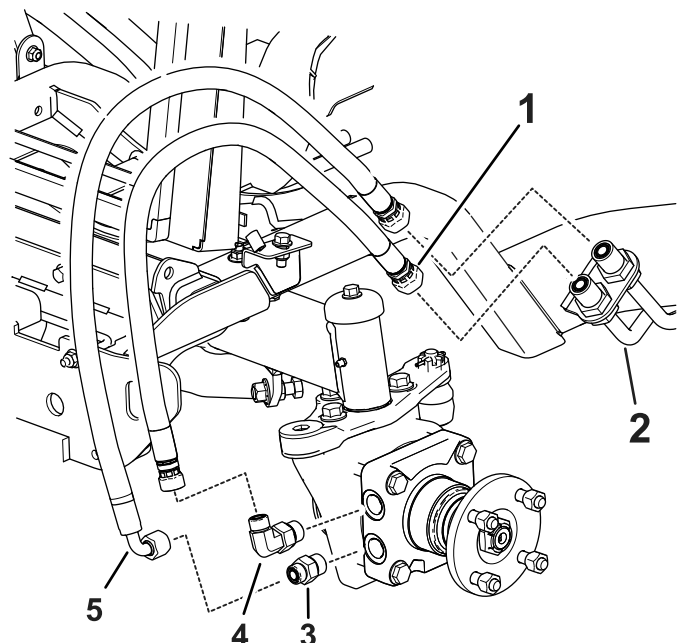

Figure 4
3. Install the new straight fitting and the 90° elbow fitting to the wheel motor (Figure 4).
6. Install the hose with straight fittings onto the 90° elbow fitting (Figure 4).
7. Install the hose with the 90° elbow to the straight fitting (Figure 4).
16. Remove one cap at a time and install the correct hose to the hydraulic line as shown in Figure 4.
17. Remove the remaining cap and install the hose to the hydraulic line (Figure 4).